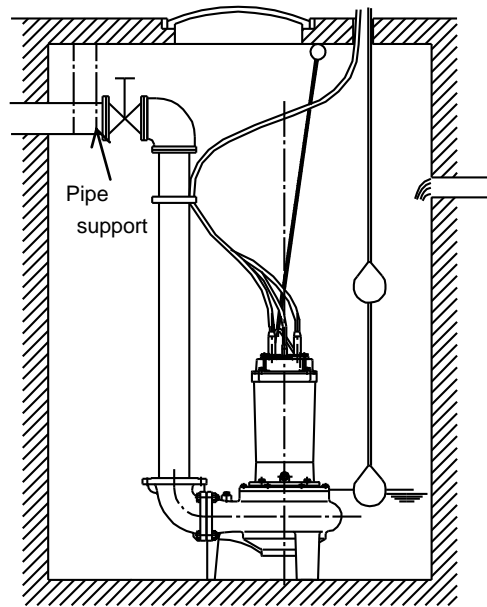
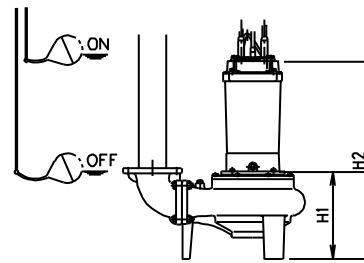

Fig. 2
Fig. 3
- (1) Under no circumstances should the cable be pulled while the pump is being transported or installed. Attach a chain or rope to the grip and install the pump.
- (2) This pump must not be installed horizontally. Ensure that it is installed upright on a secure base.
- (3) Install the pump at a location in the tank where there is the least turbulence.
- (4) If there is a flow of liquid inside the tank, support the piping to prevent abnormal vibration. (See Fig.2)
- (5) Install piping so that air will not stagnate
- (6) Do not permit end of discharge piping to be submerged. A backflow will result when the pump is stopped.
- (7) Manual type pumps do not have an automatic operating system based on built-in floats. Do not operate the pump more than ten minutes with the water level near the minimum operating level as the automatic cut-off switch incorporated inside the motor will be activated. To avoid dry operation, install an automatic operating system, as shown in Fig.3. Water levels H1 and H2 are shown in the following table.
- (8) When using electrodes for automatic operating system, incorrect actuation may occur caused by scum and oil attached on the electrodes.